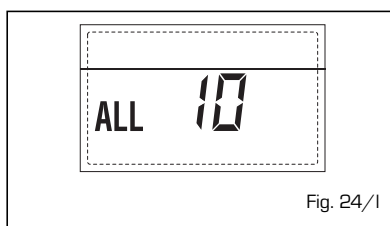

Fig. 24/l
**- ANOMALIA MODULADOR "ALL 11" (fig. 24/m)**